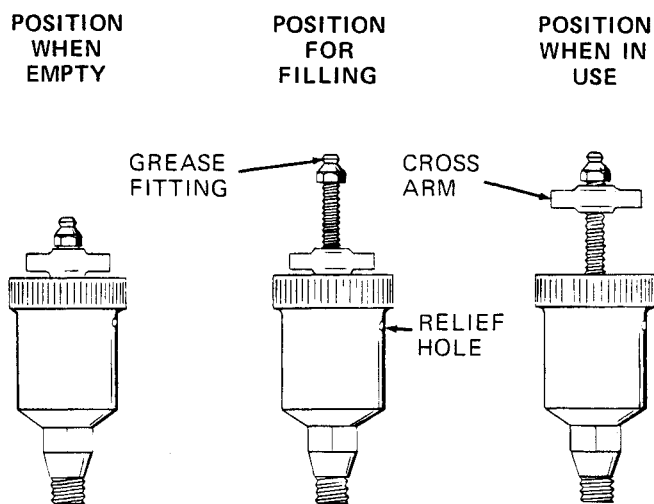

Figure 4. Automatic Lubricating Grease Cup
Turn the cross arm on the automatic lubricating grease cup (13) clockwise until it rests against the cover (see Figure 4). This will prevent the grease from escaping when the impeller is removed.
Fill the grease cup (13) through the grease fitting with No. 2 lithium base grease until grease escapes from the relief hole. Turn the grease cup arm counterclockwise until it is at the top of the stem; this will release the spring to apply grease to the seal (see Figure 4).